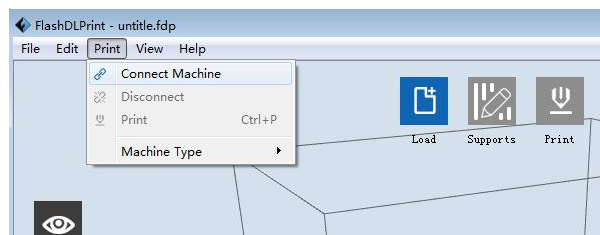

Figure 35 Connection interface
4.Click [Print]-[Connect Machine], it will pop up box, then select Wi-Fi in the Connect mode. Type in “192.168.191.2” and 8899 in IP address, click [Connect]. As shown in Figure 35, 36.